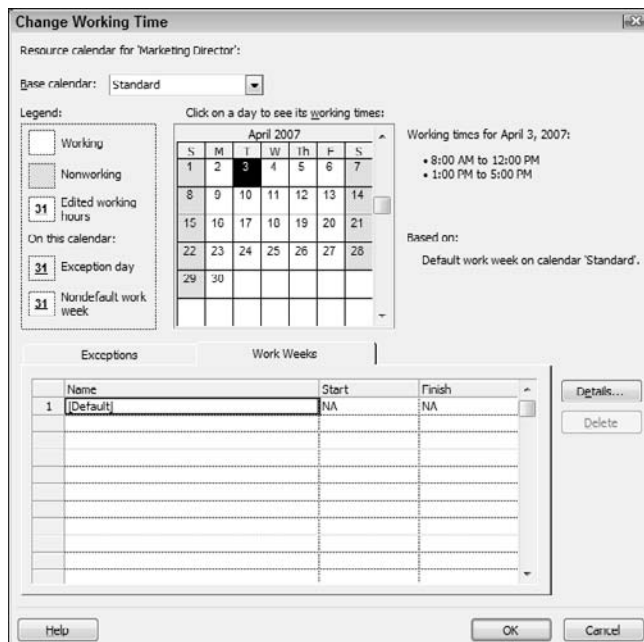

Figure 1-3: Work resources are assigned to tasks based on a Working Time calendar.
- ◆ **Work resources** are typically (but not always) people. They can't be depleted but can be reassigned. Their costs are associated with the amount of work time they put in, usually at an hourly rate or a cost per use. Work resources are assigned to tasks based on a Working Time calendar (as shown in Figure 1-3), where you specify their working and non-working hours. You can select one of three base calendars and then modify specific working hours.